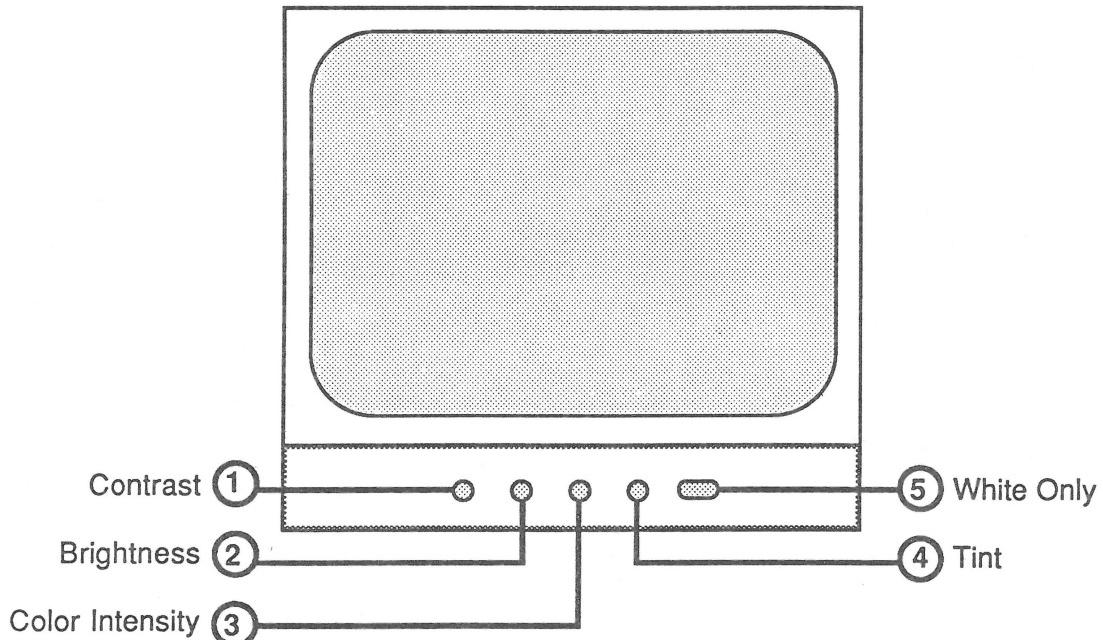

FIGURE 7
- 17. Return the **WHITE ONLY** switch (Figure 7, #5) to its normal position (out).